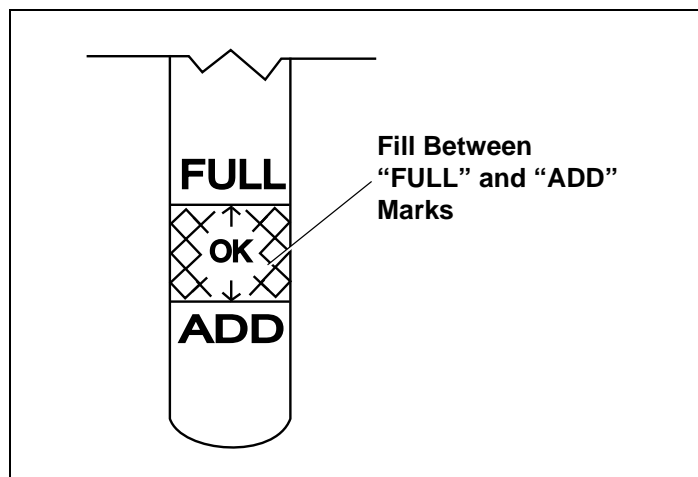

Figure 43. Engine Oil Level
12. Fill with recommended oil. See Figure 43. See "III. Oil and Fuel Specifications" instructions on page 4. See Table 1 on page 4. Afterward, continue reading instructions below.